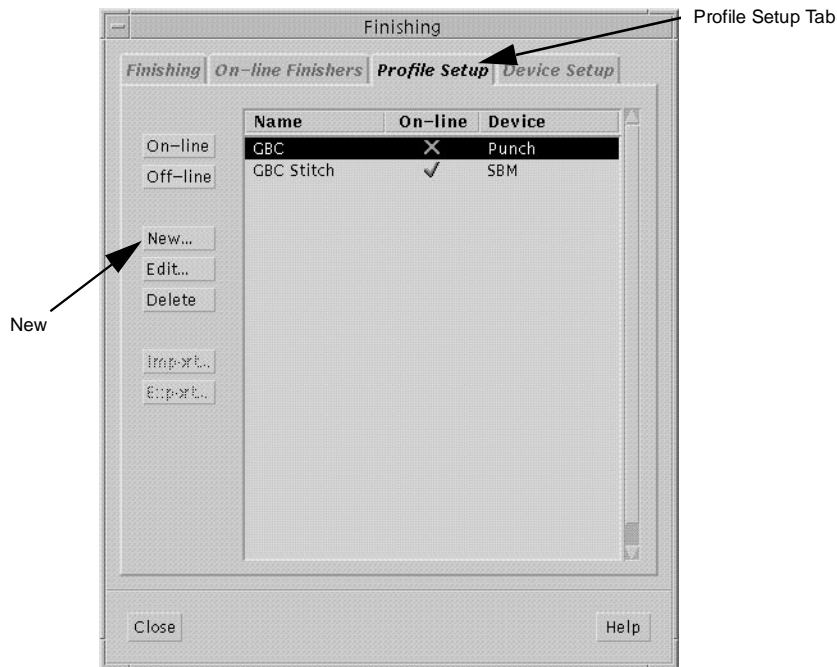

Figure 6-18 The Profile Setup Tab Screen
8. Click on the Profile Setup tab, as shown in Figure 6-18, then click on the NEW button.